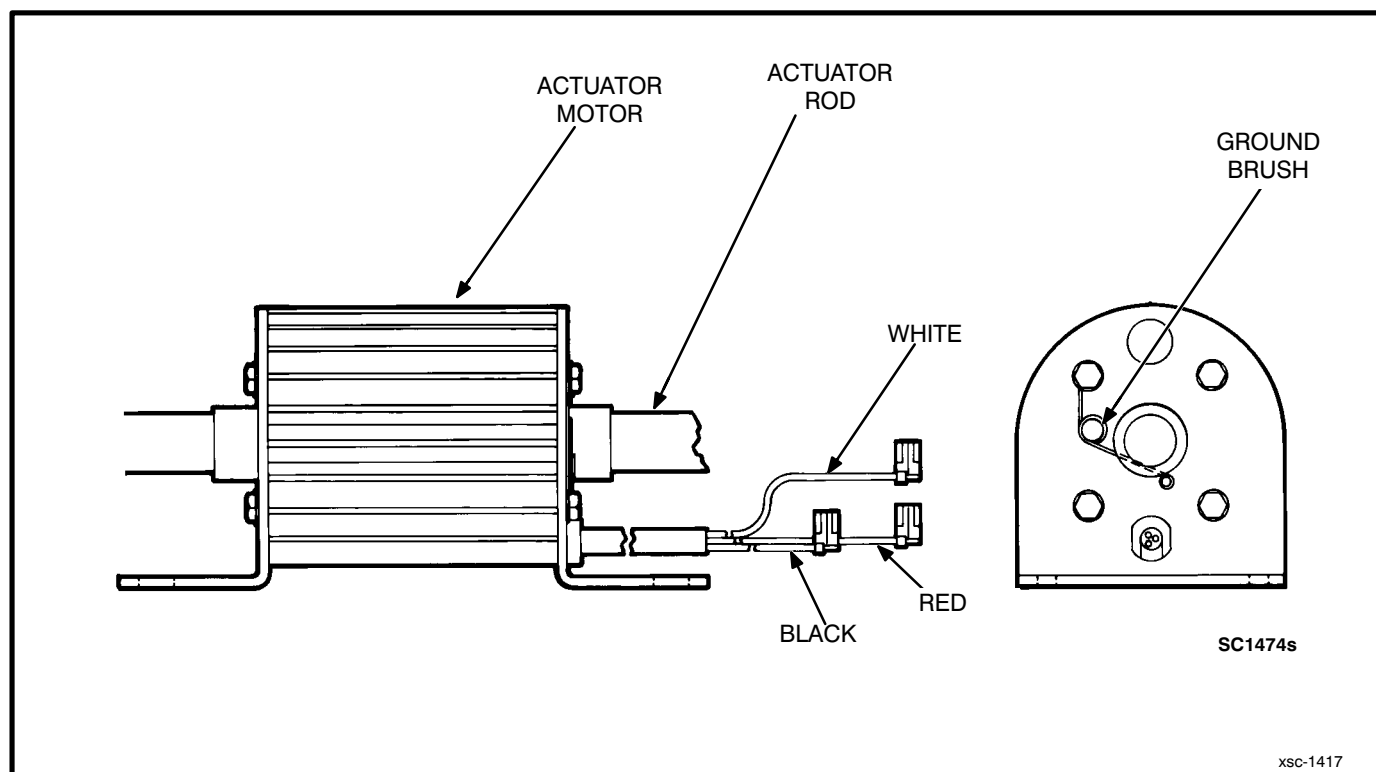

FIGURE 4-12. LINEAR ACTUATOR (300 TO 600 AMPERES)
1. Insert the actuator rod into the replacement actuator motor (Figure 4-12). Hold the actuator ground brush up slightly to allow passage of the actuator rod. Install the rod end assembly and tighten the capscrew to 70 to 75 in-lbs (7.9 to 8.5 N•m).
3. Secure the actuator motor to the switch assemblies using hex head capscrews (4), lock washers (4), flat washers (8), and spacers (4). Tighten capscrews to 25 to 27 in-lbs (2.8 to 3.0 N•m).